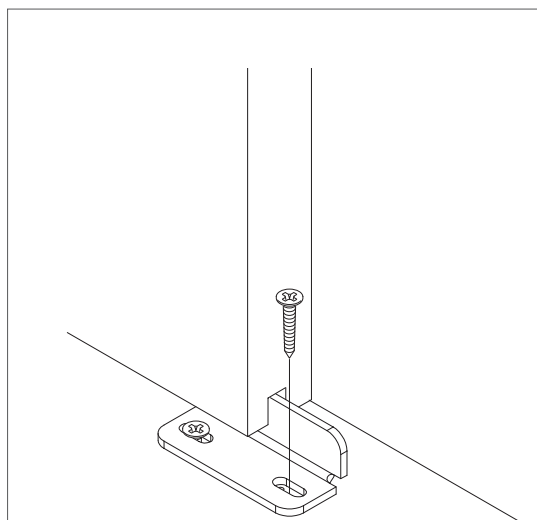

Figure 8
16. Install the second 1" phillips screw (provided) using a drill with a phillips bit. (Figure 8).